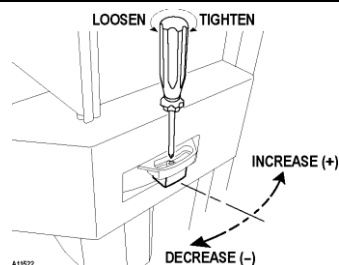

Figure 8c. Cup Diameter Adjustment
3. While facing the back of the door, find the cup dispenser adjustment screw located on the right side of the cup dispenser. Use a Phillips screwdriver to loosen the screw. **DO NOT** remove the screw. See **Figure 8c**.
- 3c. When steps 3a and 3b are satisfied then tighten the screw. See **Figure 8c**.